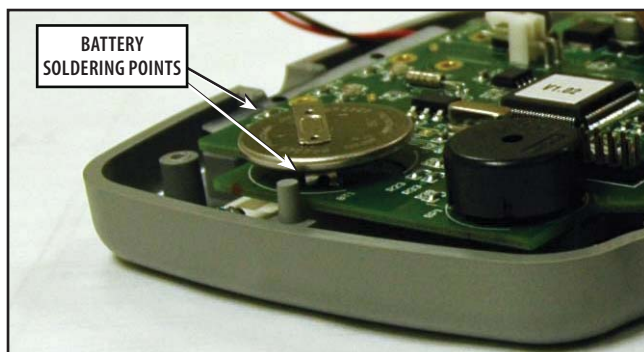

FIGURE 6.25
2. Hold the sides of the Battery. While holding touch one of the solder points securing the Battery to the Control Board and lift to detach that side of the Battery from the Control Board. **Refer to Figure 6.25.**